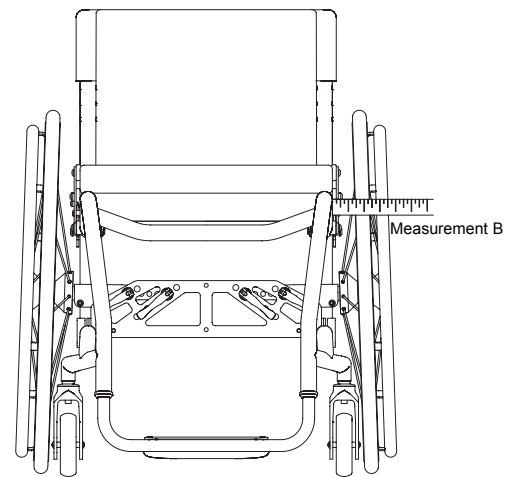

Figure 85
13. Measure the distance from the seat tube to the inside of the tire at the front of each tire on both sides of the frame ("Measurement B"). See Figure 85.